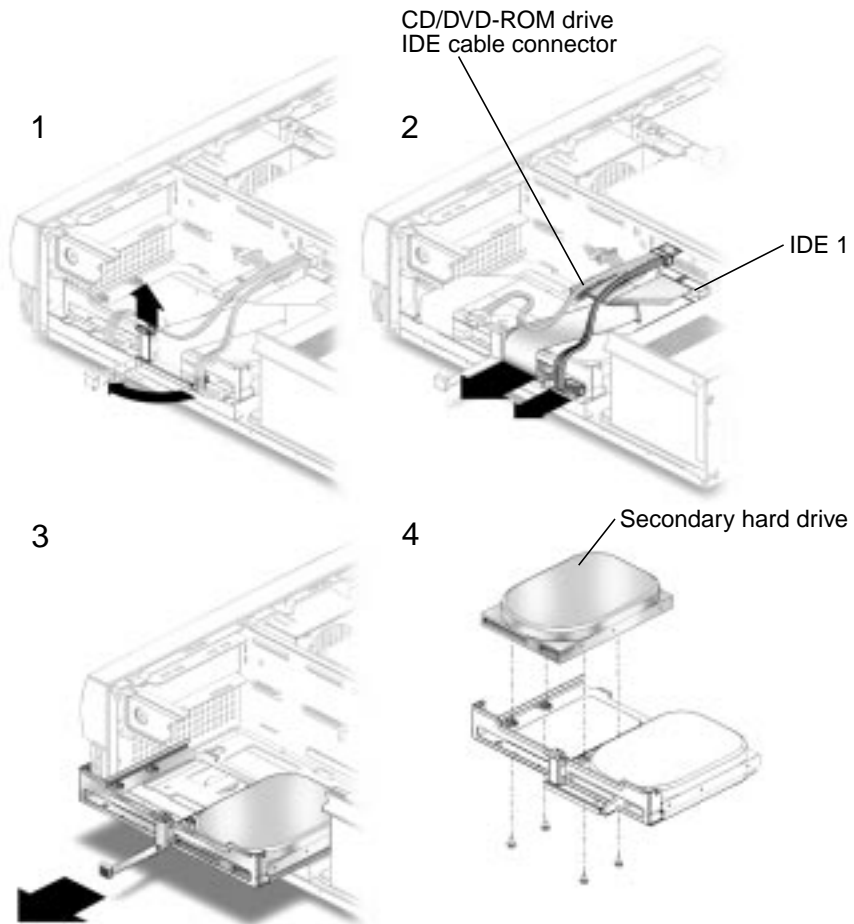

FIGURE 7-4 Installing a Secondary Hard Drive
The optional secondary hard drive mounts next to the primary hard drive on the hard drive tray (FIGURE 7-4). The secondary IDE cable assembly is used with the secondary hard drive. Use the following procedure to install the optional secondary hard drive.
2. **Lift the spring-loaded latch upward to release the hard drive tray from the chassis (FIGURE 7-4).**
11. Verify that the CD-ROM or DVD-ROM cable is connected to the primary (IDE1) cable connector labeled CD/DVD (FIGURE 7-4).